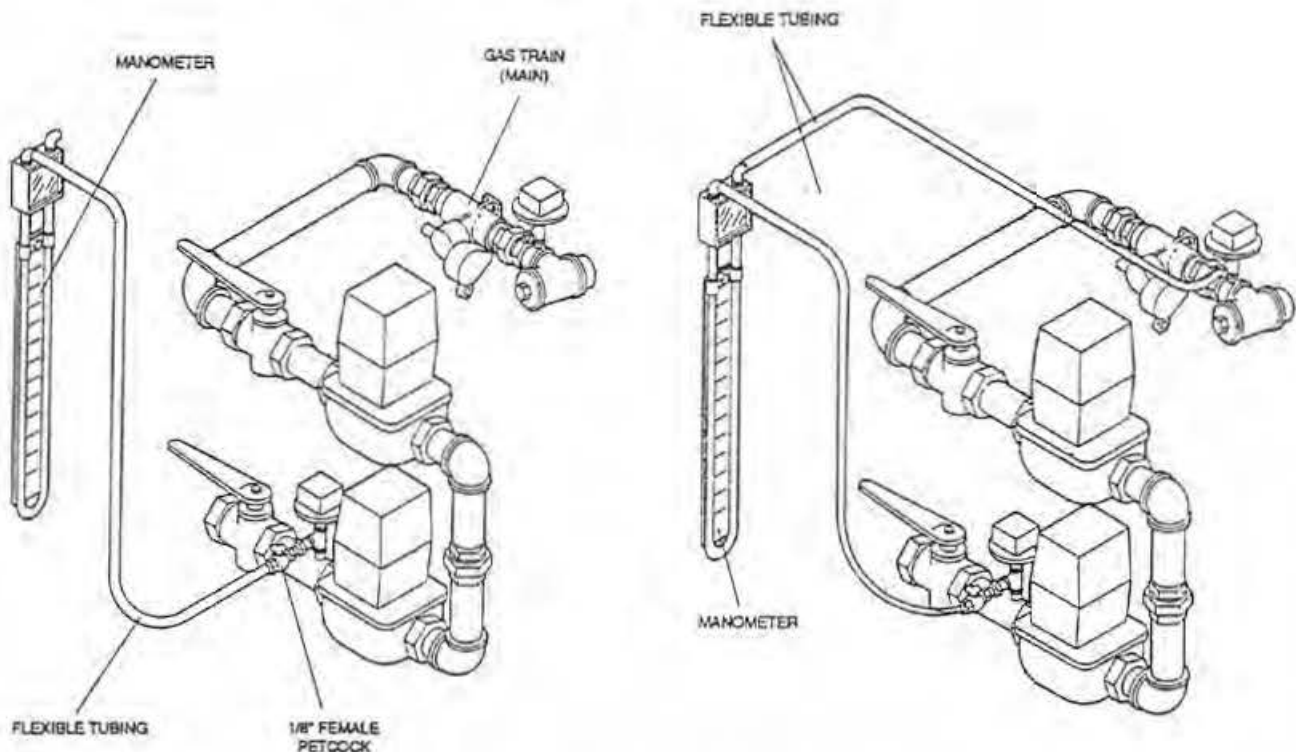

Figure 9. Pressure Tap on Gas Train
STEP 2: Set the natural gas line pressure taken at the beginning of the gas train to the value listed in the burner fire test report, by adjusting the natural gas regulator. Figure 9 "Pressure Tap on Gas Train"